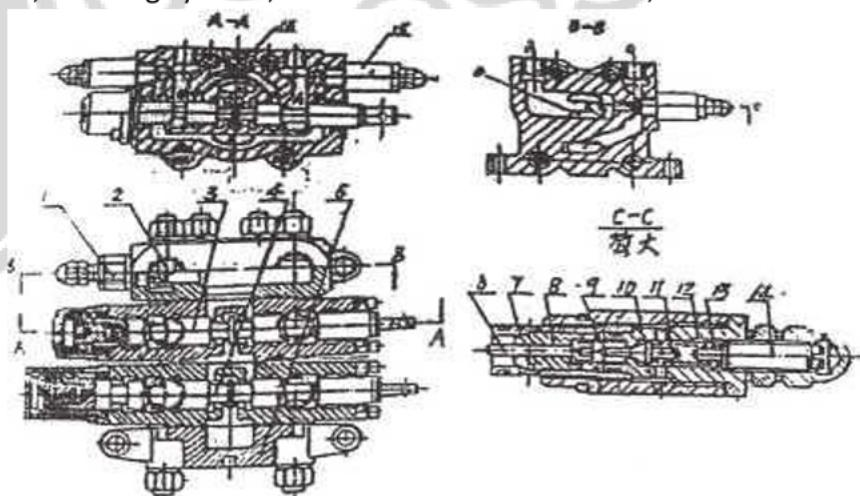

Figure 2-13; Multi-way Reversing Valve
1) Multi-way reversing valve (Figure 2-13): it is a separation multi-way reversing valve, composed mainly of the safety valve (1), filling valve body (2), tipper hopper's reversing valve (3), boom's reversing valve (4) and return valve body (5). Between the reversing valves of the tipper hopper and boom, the series-parallel connection is used to link the oil channel. The tipper hopper's reversing valve is the three location valve with offsetting spring. It has Chambers Po, P, O and A, B. With the valve handle in the center, Po flows back to the oil tank via the oil duct between Chamber O (see Section A-A) and the valve handle. With the valve handle moved, the oil duct in the valve handle is cut off. When the oil pressure at the inlet of the multi-way valve rises, the high pressure oil of Chamber Po will open the one-way valve (16) to enter the two chambers P and then enters the operating chambers A or B, while the oil returning from the operating hydraulic cylinder will enter Chamber O and return to the oil tank.